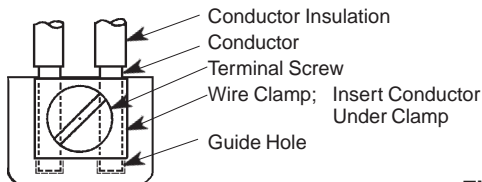

Fig. 1
- c) Connect conductors to appropriately marked terminals as identified in Table 1 below. (insert per Fig. 1).